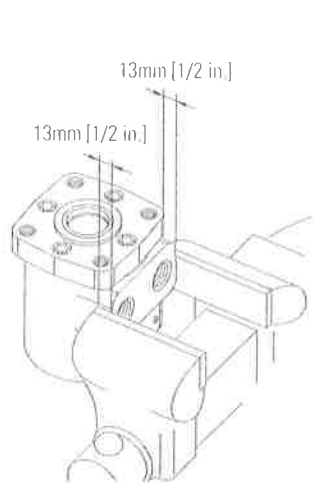

Figure 5
13. Reposition motor in vise. Clamp across ports as shown in Figure 5. Do not clamp on side of housing. Excessive clamping pressure on side of housing causes distortion.